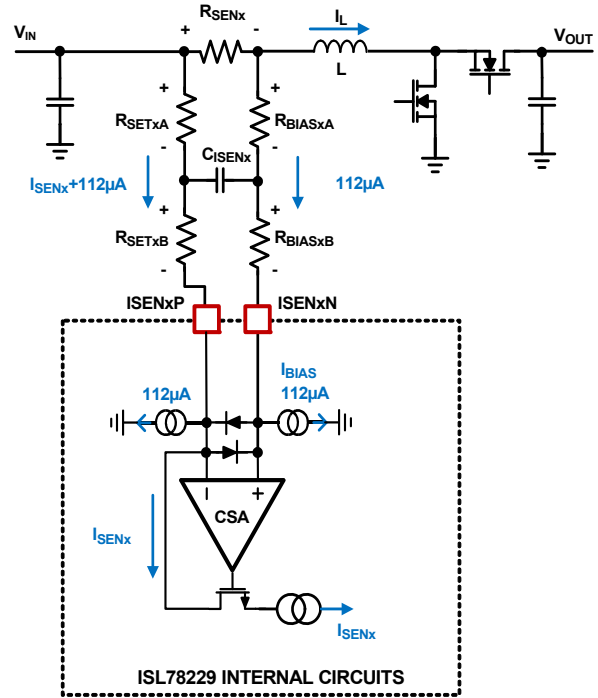

FIGURE 69. CURRENT SENSING BLOCK DIAGRAM
The ISL78229 peak current control architecture senses the inductor current continuously for fast response. A sense resistor is placed in series with the power inductor for each phase, and the ISL78229 Current Sense Amplifiers (CSA) continuously sense the respective inductor current as shown in Figure 69 on page 32 by sensing the voltage signal across the sense resistor  $R_{SENx}$  (where “x” indicates the specific phase number and same note applied throughout this document). The sensed current for each active phase will be used for peak current mode control loop, phase current balance, individual phase cycle-by-cycle peak current limiting (OC1), individual phase overcurrent fault protection (OC2), input average Constant Current (CC) control and average overcurrent protection (OC\_AVG), diode emulation, and phase drop control. The internal circuitry shown in Figure 69 represents a single phase. This circuitry is repeated for each phase.
The RC network between  $R_{SENx}$  and  $I_{SENxP/N}$  pins as shown in Figure 69 is the recommended configuration. The  $I_{SENxP}$  pin should be connected to the positive potential of the  $R_{SEN\_CHx}$  through resistor  $R_{SETx}$ , where in Figure 69  $R_{SETx}$  is composed by  $R_{SETxA}$  plus  $R_{SETxB}$ .  $R_{SET}$  is used to set the current sense gain externally.
Because there is an 112 $\mu$ A bias current sinking to each of the  $I_{SENxP}$  and  $I_{SENxN}$  pins,  $R_{BIASx}$  with the same value to  $R_{SETx}$  should be placed between the  $I_{SENxN}$  pin to the low potential of the  $R_{SENx}$ , where in Figure 69  $R_{BIASx}$  is composed by  $R_{BIASxA}$  plus  $R_{BIASxB}$ .
It is recommended to have  $R_{SETxA} = R_{BIASxA}$  and  $R_{SETxB} = R_{BIASxB}$ , and insert a capacitor ( $C_{ISENx}$ ) between them as shown in Figure 69. This will form a symmetric noise filter for the small current sense signals. The differential filtering time constant equals to  $(R_{SETxA} + R_{BIASxA}) * C_{ISENx}$ . This time constant is typically selected in range of tens of ns depending on the actual noise levels.